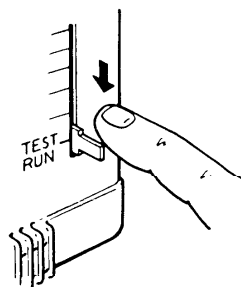

Fig. 8
- ② Set the thermostat lever to the lowest position. (The central position of the lever becomes the TEST RUN position.) Fig. 8
- ③ Press OPERATION "ON" button to start the air conditioner.
- ④ After completion of test run, press "OFF" button to stop the unit.
- ⑤ Reinstall the thermostat knob. (The stopper position facing down.)